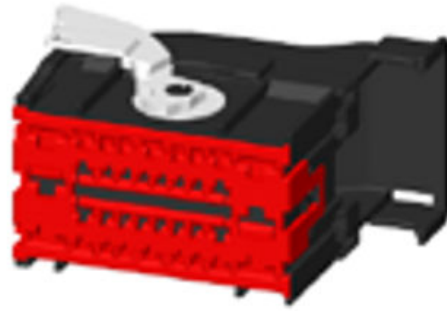

Fig. 4
- Remove the red connector terminal cap from the surface of the C3 connector Fig. 4.
13. Install the red connector terminal cap to the C3 connector Fig. 4.